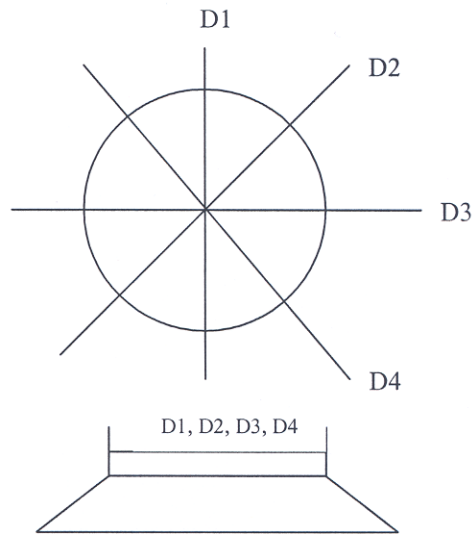

FIGURE 1: Typical Measuring Pattern
- 7.11 Measure and record the diameter of the circular area four times, at intervals of 45° and to the nearest 0.1 in., as shown in Figure 1.
- 11.9 Measure and record the diameter of the circular area four times, at intervals of 45° and to the nearest 0.1 in., as shown in Figure 1.